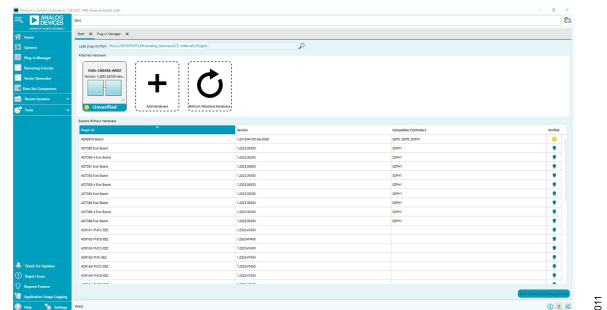

Figure 11. ACE Main Window
4. Run the ACE application. On the "Start" window of ACE, the EVAL-CN0586-ARDZ should appear in the "Attached Hardware" section, as shown in Figure 11.